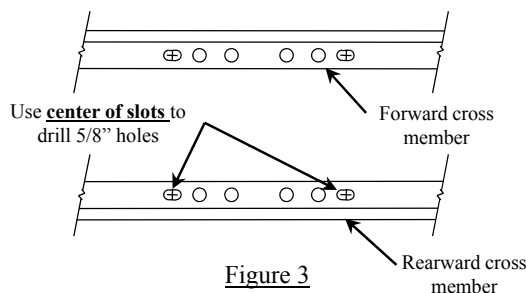

Figure 3
8. For 6300/630044 & 8339 use the center of the outer slots in the rearward hitch cross member as a template to drill 5/8" diameter holes through the truck bed as shown in Figure 3. Not all holes can be drilled from under the vehicle, but will be done later from inside the bed.